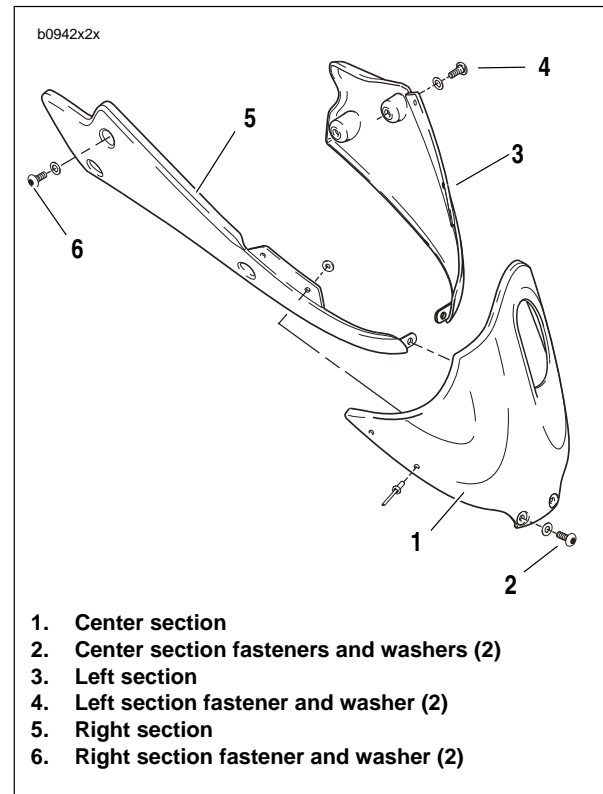

Figure 2-124. Chin Fairing
2. See Figure 2-124. Remove center section fasteners and washers (2).
3. Remove left section fasteners and washers (4).
4. Remove right section fasteners and washers (6).
2. See Figure 2-124. Position the assembled chin fairing (5) and loosely install right side fasteners and washers (6).
3. Align center section (1) and loosely install center section fasteners and washers (2).